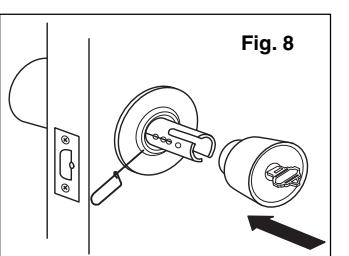

Fig. 8
2. With knob assembly together, align slot in knob assembly with one of slots on lock assembly and push (Fig. 8).